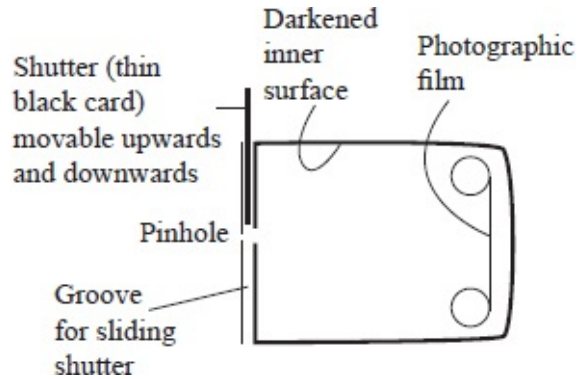

Fig. 8.19: Pinhole camera modified to take photographs
- (c) The pinhole should be covered with a thin black card which acts as a **shutter**, see figure 8.19.